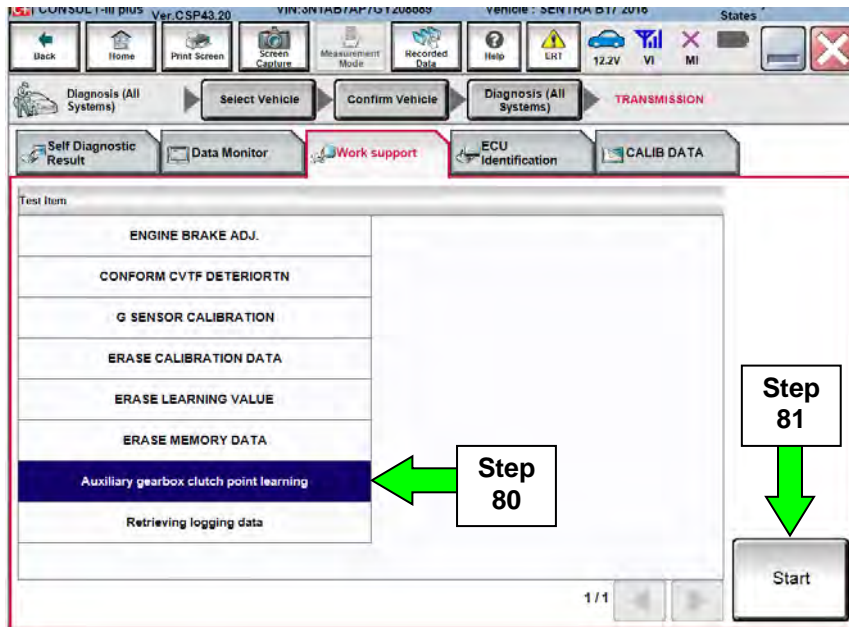

Figure 41
79. Navigate C-III plus to the screen shown in Figure 41.